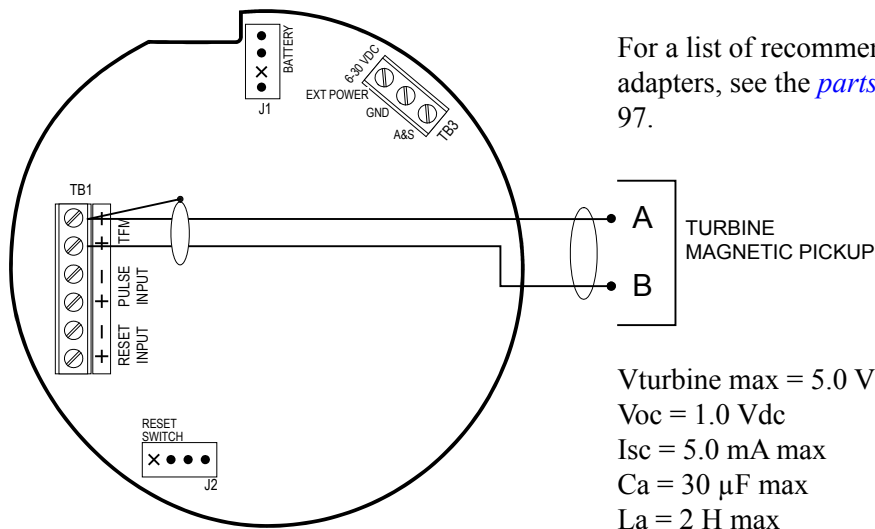

Figure 2.8—Flowmeter input wiring
5. Connect the flowmeter or pulse input wiring to terminal block TB1. See Figure 2.8 and 2.9, page 20.